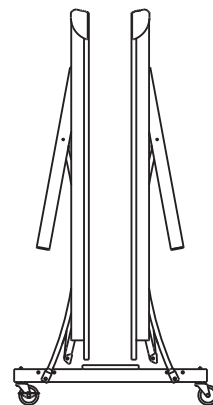

Figure 9
4. Raise other table half in the same manner as shown in Figure 9.